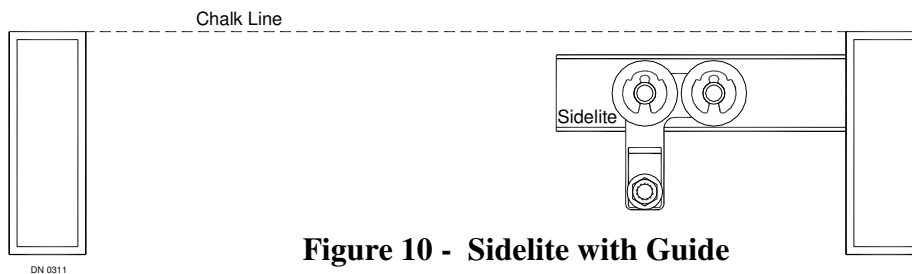

Figure 10 - Sidelite with Guide
2. Slide rollers into the end of the bottom rail of the sidelite. You will attach them to the door later. (see Figure 10).
3. Snap a chalk line from jamb to jamb across the face closest to the sidelite (see Figure 10).